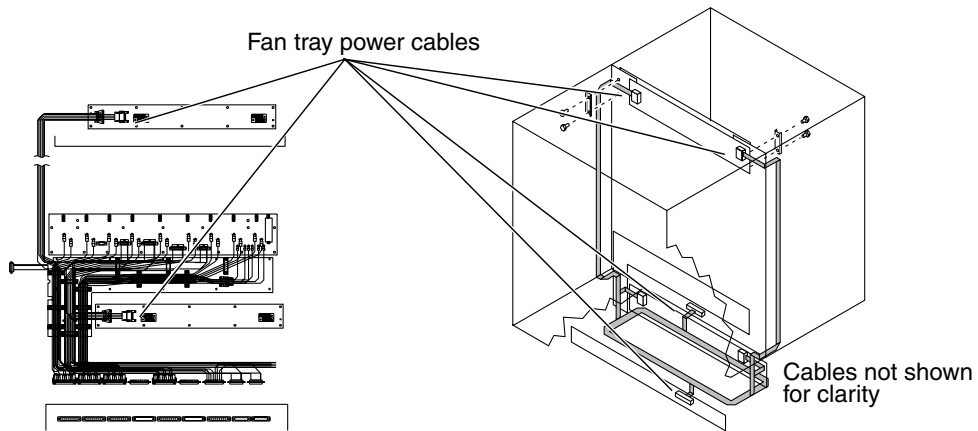

FIGURE 16-11 Fan Tray Power Cable
3. Remove the twenty-two (22) M4x30 panhead screws retaining the air plenum cover, and remove both the plenum cover and the honeycomb EMI filter panel.
4. Reach inside the system, below the fan trays, and release the four (4) (two per connector) male jackscrews holding the 48 VDC power cable assemblies to the two (2) fan tray power cable connectors attached to the connector bracket (FIGURE 16-11).